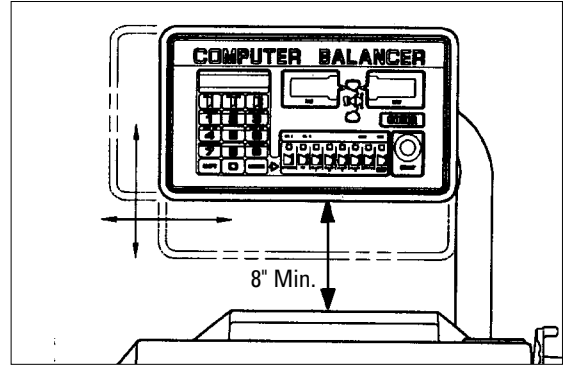

Figure 4 - Control Pod Height
8. Loosen the adjustment knobs on the support arm retainers. Raise or lower the control pod into the desired position, and tighten the retainer nuts securely. The bottom edge of the pod should be at least 8 inches above the top of the balancer (Figure 4).